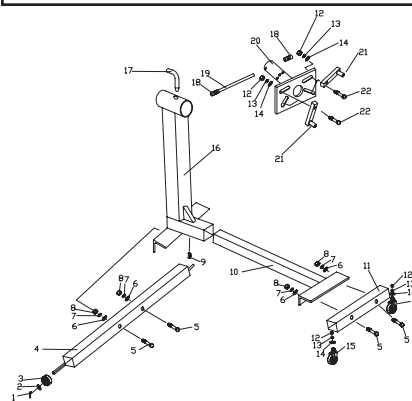

Figure 2 - Assembly illustration for model T-3101
Model: T-3101 (see Figure 2)
- 4. To rotate engine, carefully remove pin. Use handle to rotate, then secure by re-installing pin (Refer to Fig. 2).